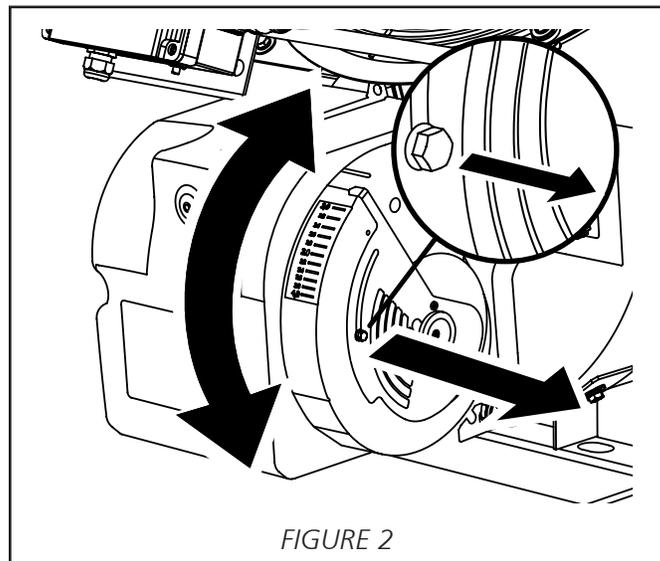

FIGURE 2
3. Adjust the air damper of the burner according to your needs. See Figure 2.